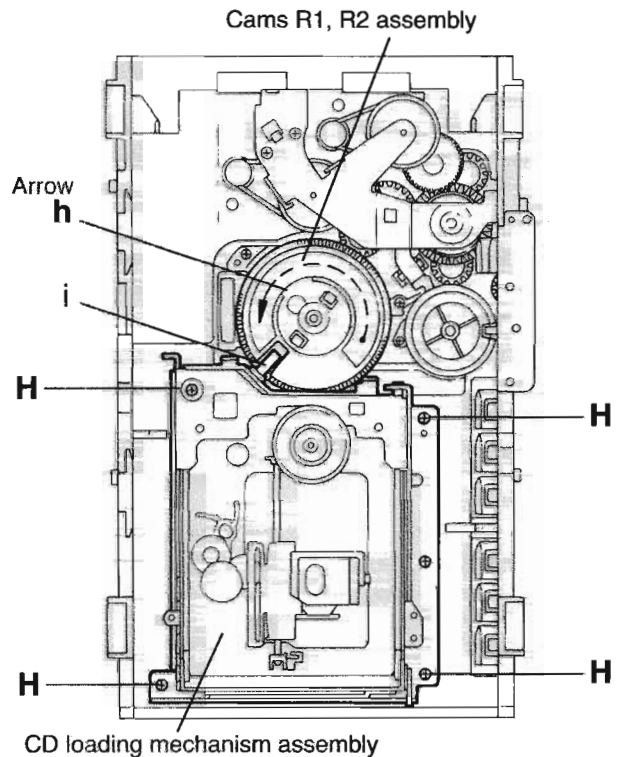

Fig.10
■ Removing the CD loading mechanism assembly(See Fig.10)
1. While turning the cams R1 and R2 assembly in the arrow direction "h",align the shaft "i" of the CD loading mechanism assembly to the position shown in Fig.10.